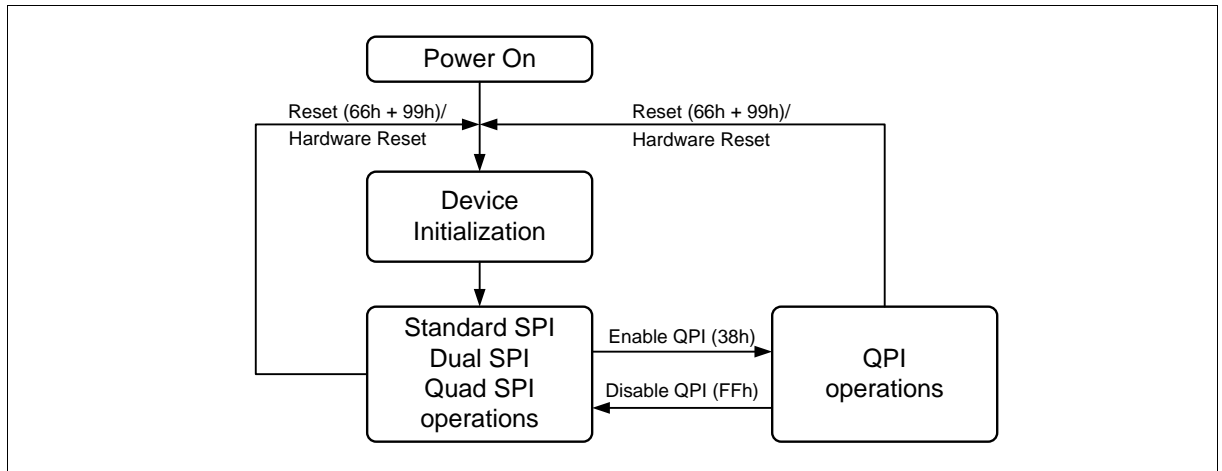

Figure 5 FM25LQ128I3 Serial Flash Memory Operation Diagram
The FM25LQ128I3 supports Quad Peripheral Interface (QPI) operations only when the device is switched from Standard/Dual/Quad SPI mode to QPI mode using the “Enable QPI (38h)” instruction. The typical SPI protocol requires that the byte-long instruction code being shifted into the device only via DI pin in eight serial clocks. The QPI mode utilizes all four DQ pins to input the instruction code, thus only two serial clocks are required. This can significantly reduce the SPI instruction overhead and improve system performance in an XIP environment. Standard/Dual/Quad SPI mode and QPI mode are exclusive. Only one mode can be active at any given time. “Enable QPI (38h)” and “Disable QPI (FFh)” instructions are used to switch between these two modes. Upon power-up or after a software reset using “Reset (66-99h)” instruction or hardware reset, the default state of the device is Standard/Dual/Quad SPI mode. To enable QPI mode, the non-volatile Quad Enable bit (QE) in Status Register-2 is required to be set. When using QPI instructions, the DI and DO pins become bidirectional DQ0 and DQ1, and the WP# and HOLD# pins become DQ2 and DQ3 respectively. See Figure 5 for the device operation modes.